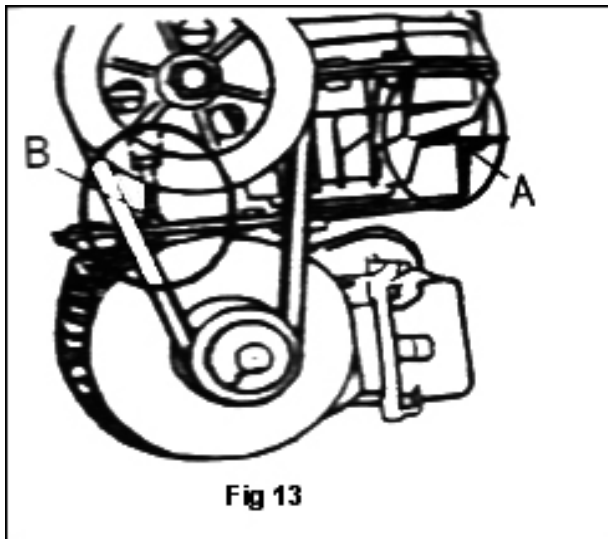

Fig 13
- Periodically check and adjust the tension of the driven belt. Properly adjust the adjust nut in A and B to realize the proper tension. (FIG 13) .